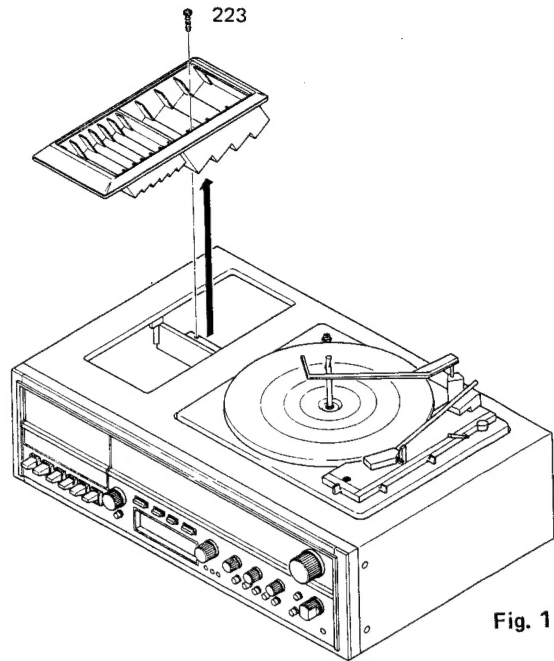

Fig. 1
1. Remove screws 223 (WH 3 x 8) from case (45), and the case can be easily detached. (See Fig. 1.)